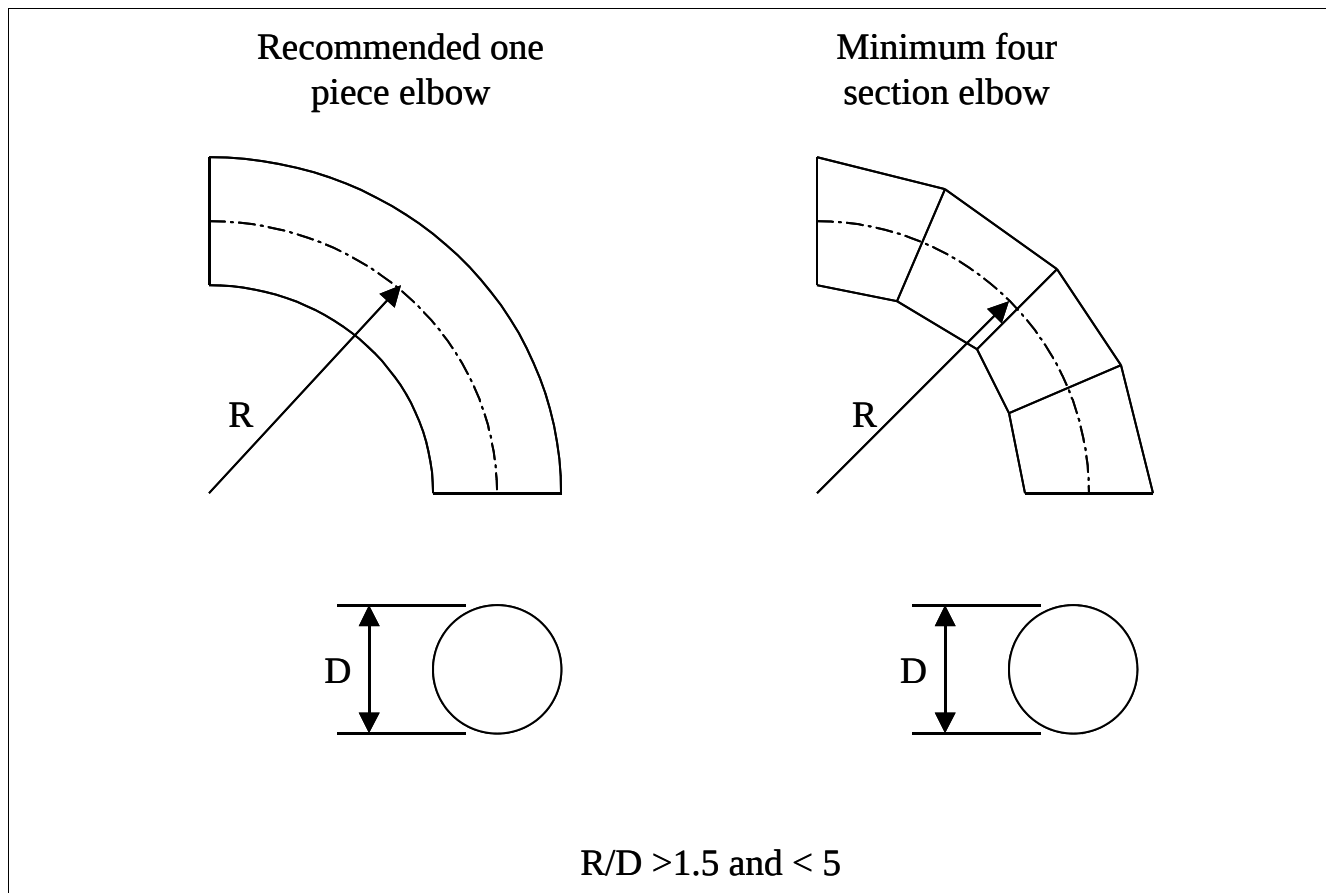
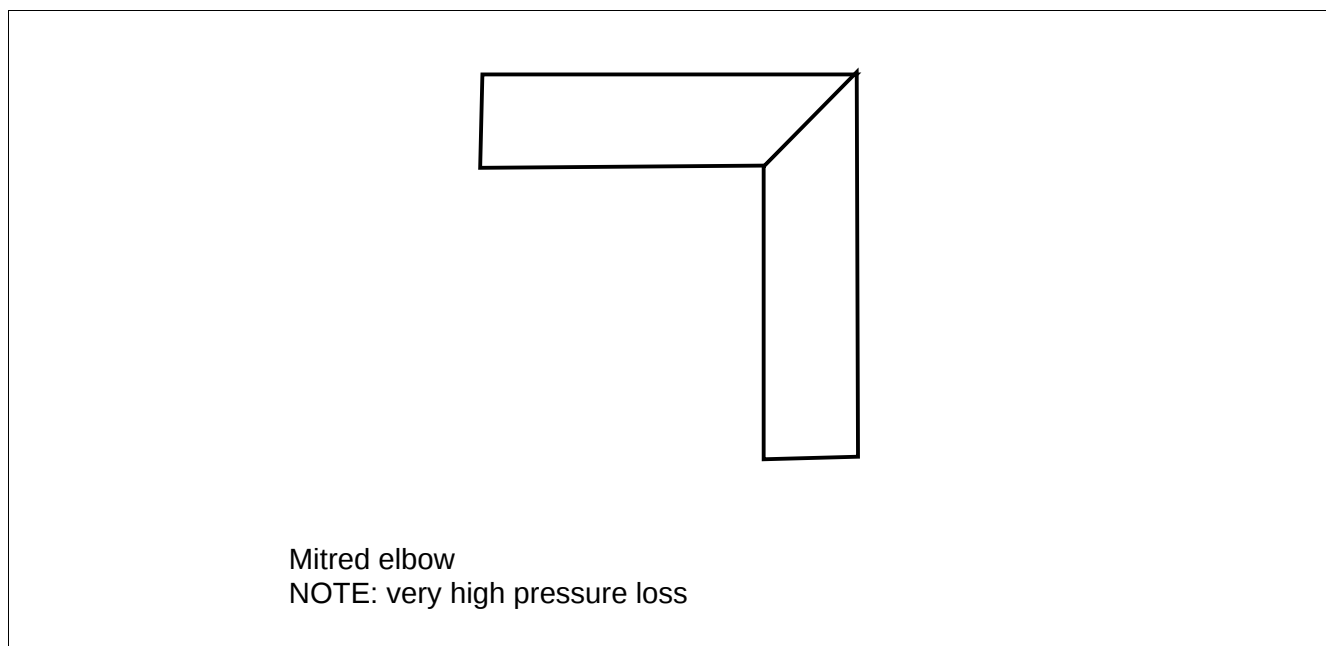

Fig. 5 Quench line elbow types
Fig. 6 Mitred elbow
9. All bends must be smooth walled and have a centerline radius to internal pipe diameter ratio in the range **1.5 to 5.0**. Where a one-piece bend is not readily available, a fabricated bend using straight sections is permissible (Fig. 5).
3. Lay out line with bend elbows. Check bend radius to diameter ratio for all elbows (Fig. 5; Fig. 6)